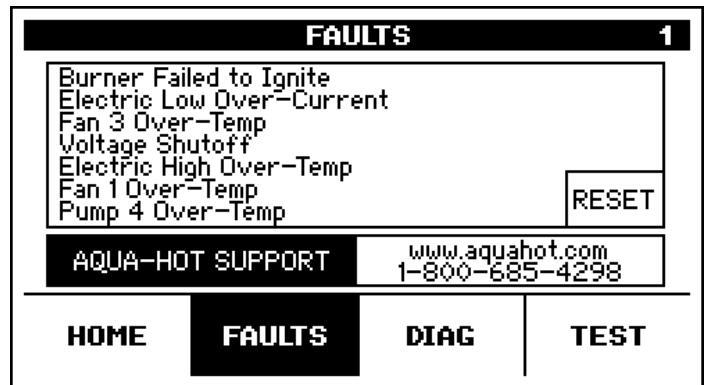

Figure 1
1. Check the Reporter fault screen for any fault conditions associated with this unit (Figure 1.) Record these conditions.